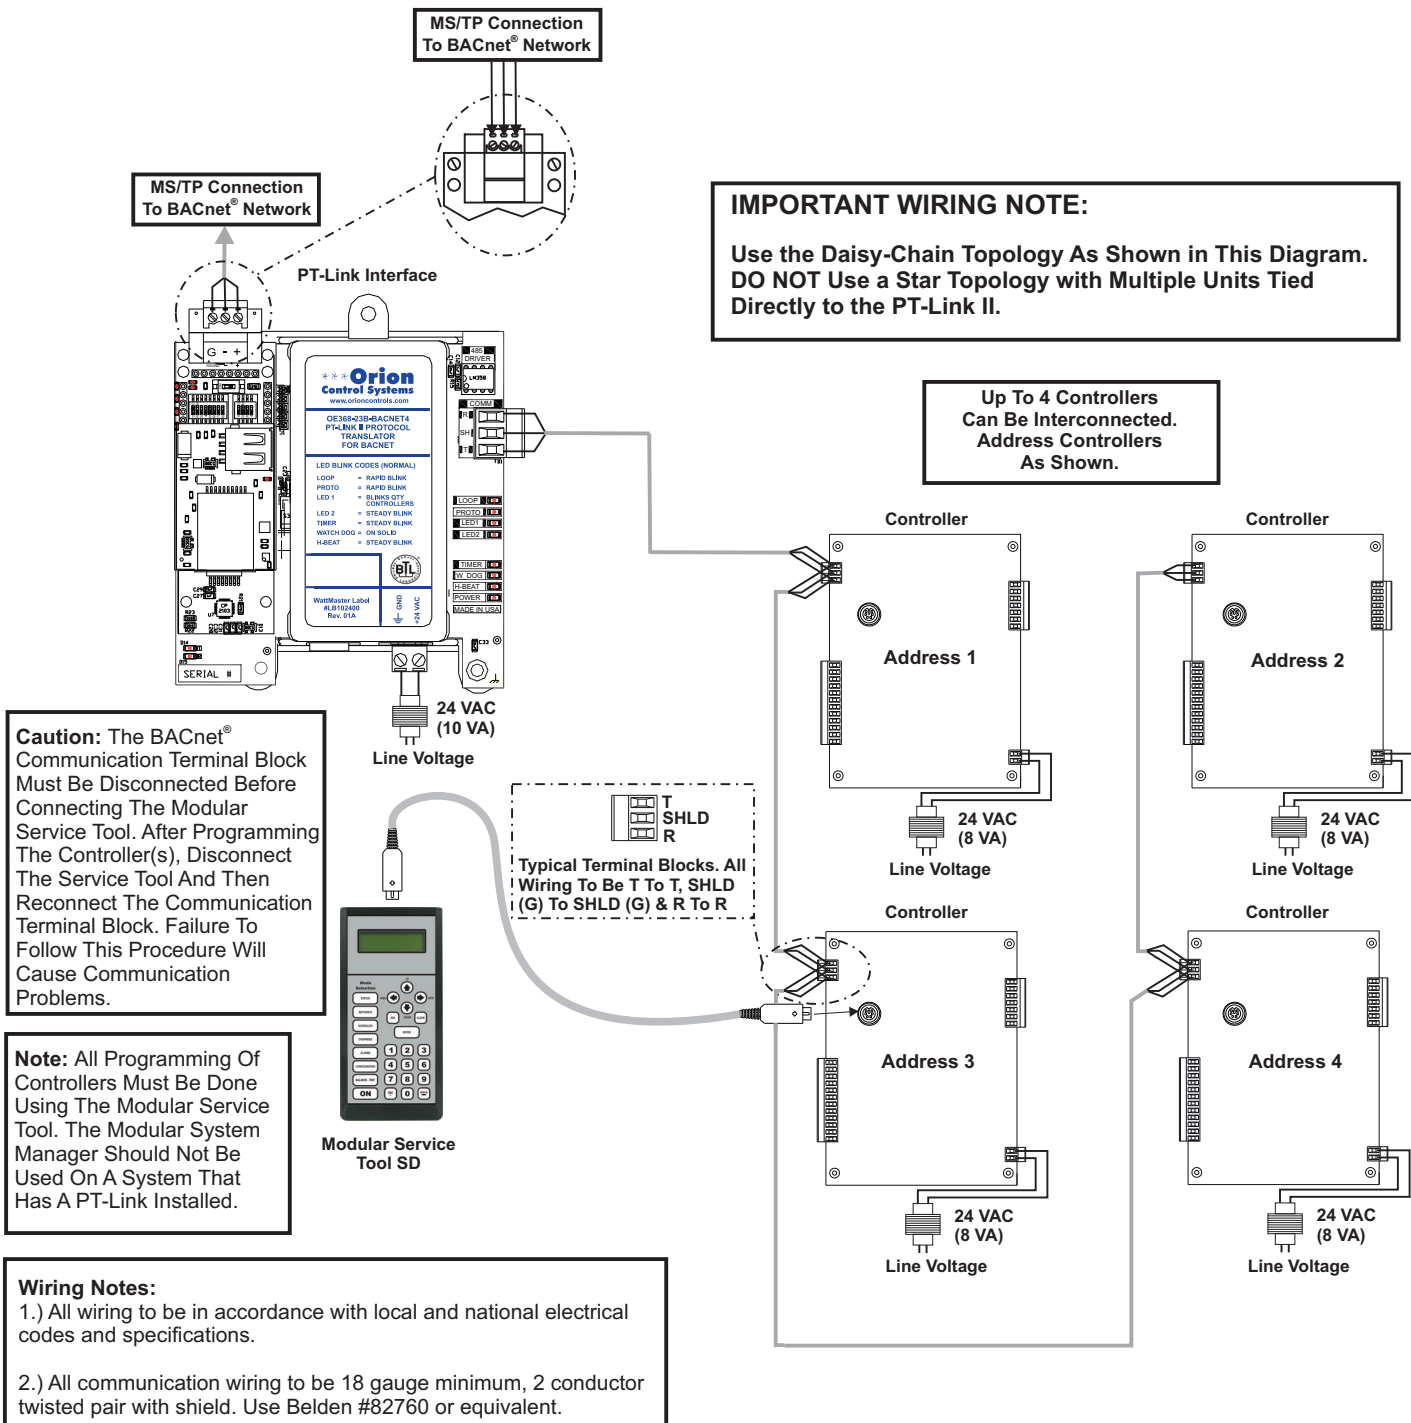

Figure 2: PT-Link II BACnet® Interface Wiring
2. Connect your PT-Link II to the Controller(s) on your system (up to four) and connect your PT-Link II to the BACnet Network (**Figure 2**). **NOTE:** Controllers must be addressed as 1, 2, 3 & 4.